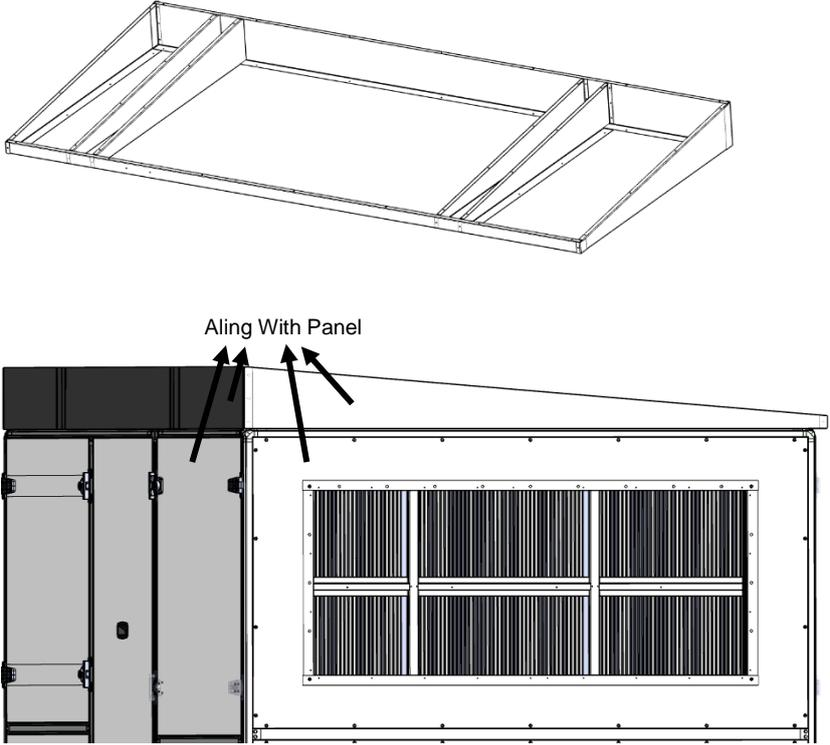

Fig. 123
3. Place the frame assembly on the unit. Make sure that these parts are at the same level with the unit's vertical panels (Fig. 123)